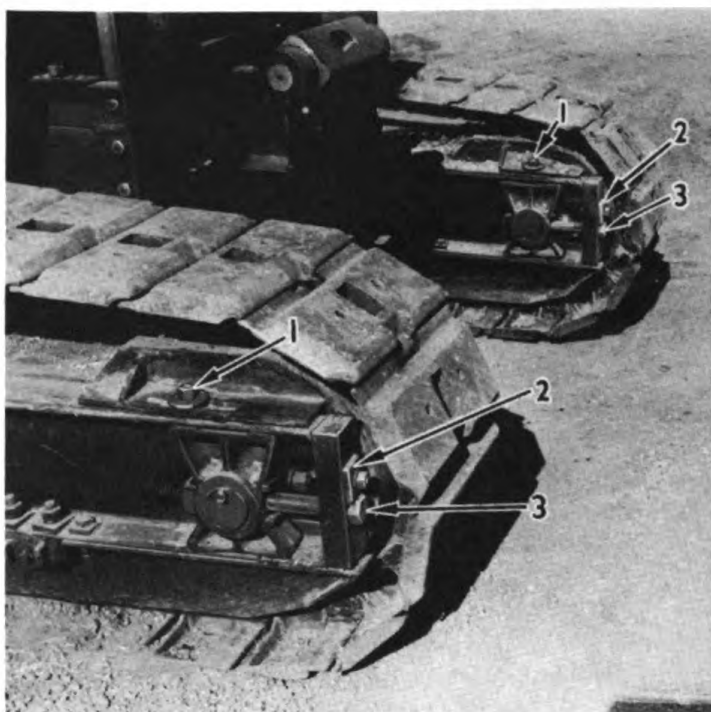

Figure 71. Crawler take-up end.
When the sag in the crawler treads from the spring take-up idler to the front idler wheel exceeds three inches, the crawler tread should be tightened. To do this, loosen the two bolts (1) Figure 71, holding take-up guard plates and clean out slots so the guard plates can be free to slide. Remove lock plates (2) from head of take up bolt. Turn bolts (3) equally on both sides until there is no sag in the tread and the spring on the spring take-up idler begins to compress. The tread will then be in proper adjustment. It is important to take up on each bolt an equal amount to insure proper alignment of idler wheel and crawler tread.